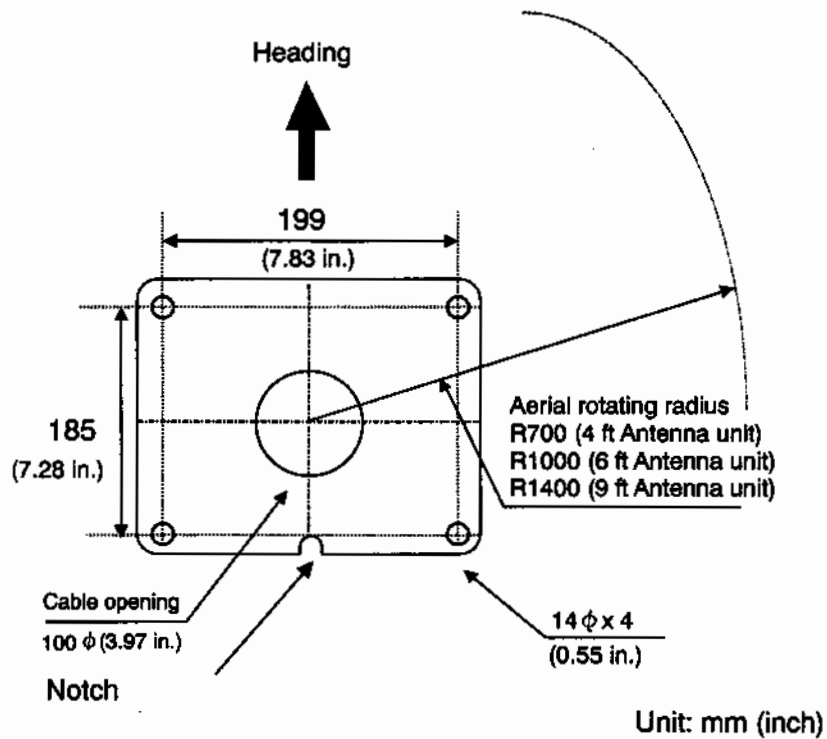

Figure 3.1 Plain view of mounting
The transceiver unit is equipped to orient the notch of the attachment to stern as shown in Figure 3.1. Installation in this way eases maintenance work. Also refer to the consideration on equipment shown in 1.4.1.
- (1) Four mounting hole 14mm in diameter are made in the attachment side on the platform with reference to Figure 3.1.
- (2) The transceiver unit is put on the location secured with four 12mm stainless steel bolts contained in installation material.